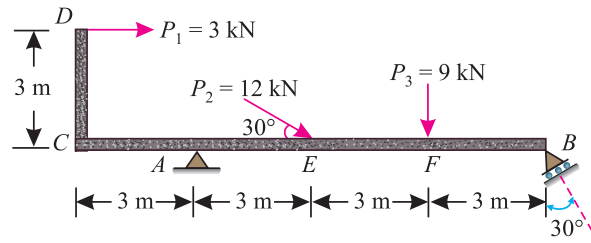

Fig. 12.23.
**Example 12.9.** A beam has hinged support at A and roller support at B as shown in Fig. 12.23.